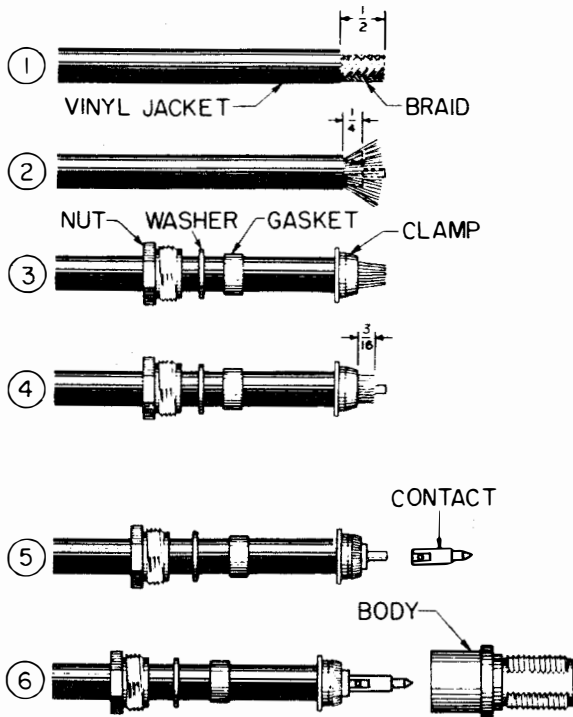

Figure 3-11. Assembly of Type UG-21D/U Plug Connector to Cable
c. ASSEMBLY OF TYPE UG-21D/U PLUG CONNECTOR TO CABLE. (See figure 3-11).
- (1) Cut cable off sharply. Cut off vinyl jacket 1/2 inch from end, being careful not to nick braid.
- (2) Fan out copper braid. Cut inner dielectric 1/4 inch from end to bare center conductor; be careful not to nick conductor.
- (3) Taper braid over end of cable. Slide nut, washer, and gasket onto vinyl jacket. Slide clamp onto braid.
- (4) With clamp in place, trim braid 1/16 inch back from end of center conductor so that length of exposed braid is 3/16 inch.
The UG-21D/U plugs furnished with the equipment are used with RG-10/U cable between the terminal box output connectors, J110 and J111, and any approved local connecting device. See figure 3-11 for instructions on assembly of the UG-21D/U connectors on the cable. UG-21D/U is a later version of the UG-21B/U connector. UG-941A/U and UG-21D/U are identical except that UG-941A/U has an armor clamp for RG-10/U cable. Armor clamp MX-564A/U is required for UG-21D/U when used with RG-10/U cable.